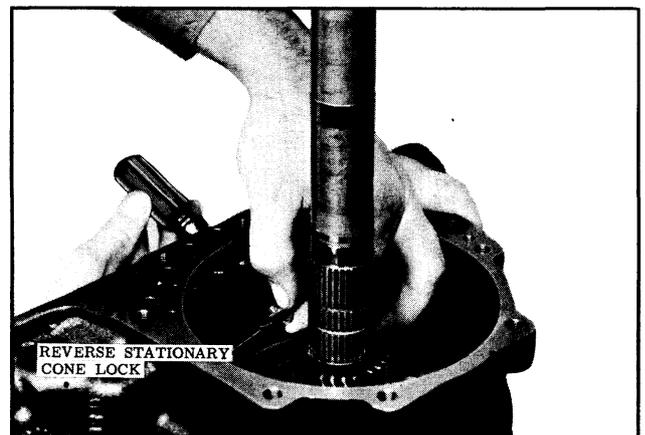

Fig. 3-40 Removing Reverse Stationary Cone Lock
16. Remove the stationary cone lock from the case. (See Fig. 3-40)